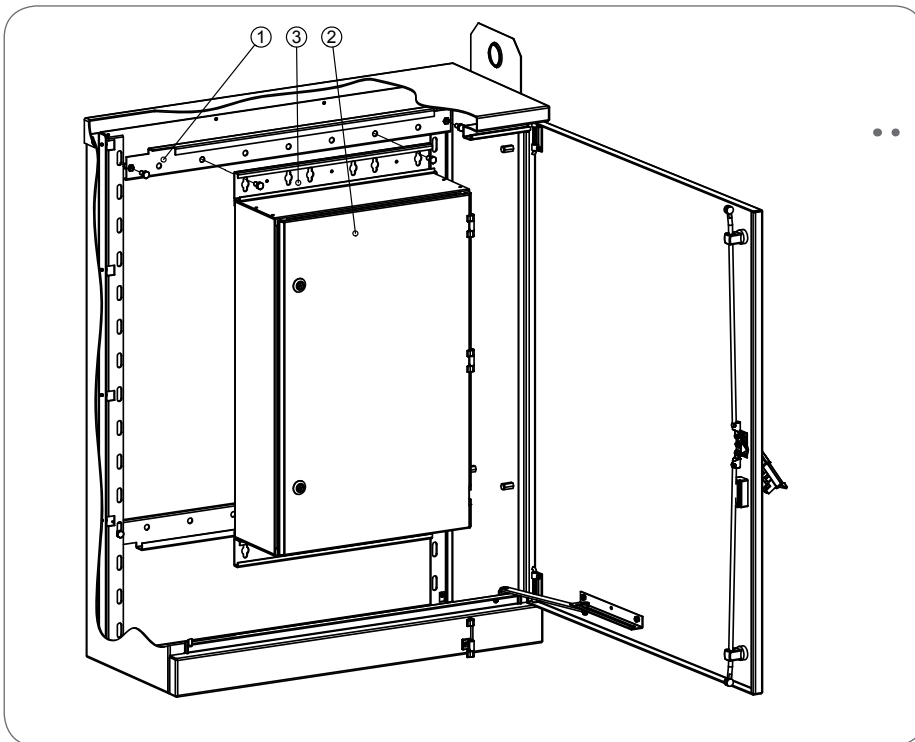

Fig. 2.11. Adding a F-serie system inside the C-serie cable distribution cabinet. The system is mounted on the fastening rails (1) screwed inside the cabinet.
If required, the F-serie system (2) may be installed inside a ready assembled cabinet. Tie rails (3) or fastening corners are mounted on both ends of the distribution board. Next, install two fastening rails (1) inside the cabinet and use them to screw the tie rails of the distribution board in place as shown in Figure 2.11.